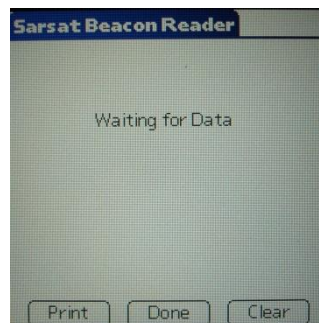

Figure 21: Waiting for Data Screen
4. The screen will display "Waiting for Data", as shown in Figure 21, until a valid ELT transmission is received.